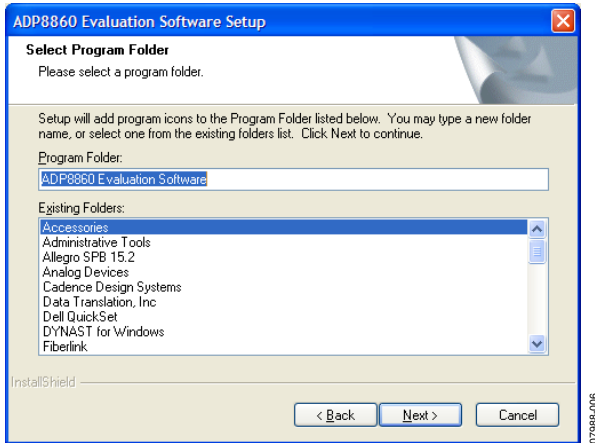

Figure 6. Select Program Folder
5. Click **Next>** to install the program to the default program folder (see Figure 6).